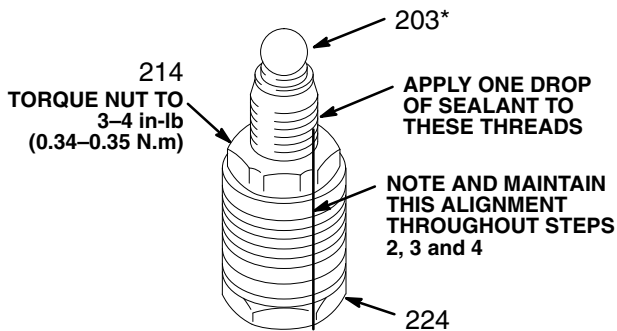

Fig 12
2. Tighten the packing retaining nut (214) against the gland (213) and torque to 3–4 in-lb (0.34 – 0.35 N.m). See Fig 12.
3. Apply 1 drop only of sealant, supplied with the repair kit, to the piston valve threads. Place the small ball (203*) on the valve. See Fig 12. Hand tighten the valve into the rod (223) just until the nut contacts the rod. Place the flats of the displacement rod in a vise.